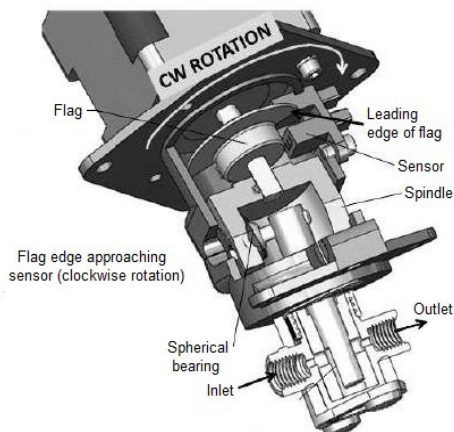

Fig. 3
2. While monitoring sensor signal, instruct motor to turn clockwise while looking for the leading edge of the flag (see Fig. 3).